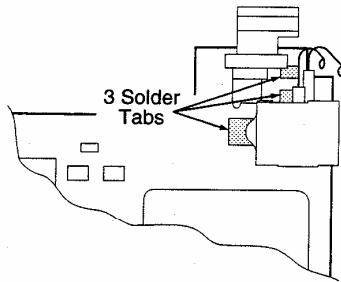

Figure 1.
- (1) Use a #2 slotted screwdriver to straighten the two tabs of the RF switch bracket that wrap around the RF board. Use your forefinger to hold the RF switch bracket to the rf board while straightening the tabs to avoid lifting the solder tabs on the opposite end of the RF switch bracket.
- (2) Refer to figure 1 and use a small heat-focus head